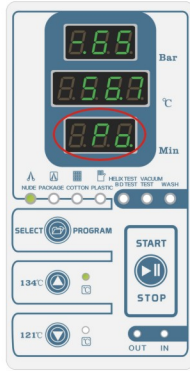

Fig. 5.4-3
(3) **First times Heating stage:** when the vacuum value reach Pv value, the steam generator start inject the steam into chamber, temperature display window show high temperature and up. pressure the steam into chamber, temperature display window show high temperature and up. pressure display window show high pressure and up. operation display window show “Po” . (Fig.5.4-3)
(6) **Second times Heating stage:** When the vacuum value reaches -0.70bar value, the control system will open water pump solenoid valve(Ev2) and steam generator start inject the steam into chamber, temperature display window show high temperature and up. pressure display window show high pressure and up. operation display window show “Po” .(Fig.5.4-3)
(9) **third times Heating stage:** When the vacuum value reaches -0.70bar value, the control system will open water pump solenoid valve(Ev2) and steam generator start inject the steam into chamber, temperature display window show high temperature and up. pressure display window show high pressure and up. operation display window show “Po” . when temperature in chamber up to 134°C(134°C sterilization program) or 121°C(121°C sterilization program), start sterilization.(Fig.5.4-3)